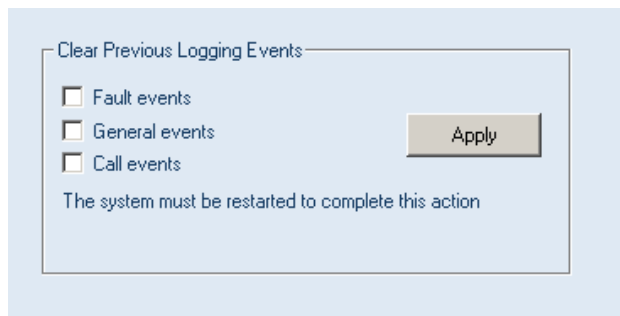

figure 36.10: Clear logging
- 1 Click the *Clear logging* button in the navigation bar. A screen similar to the one in figure 36.10 appears.